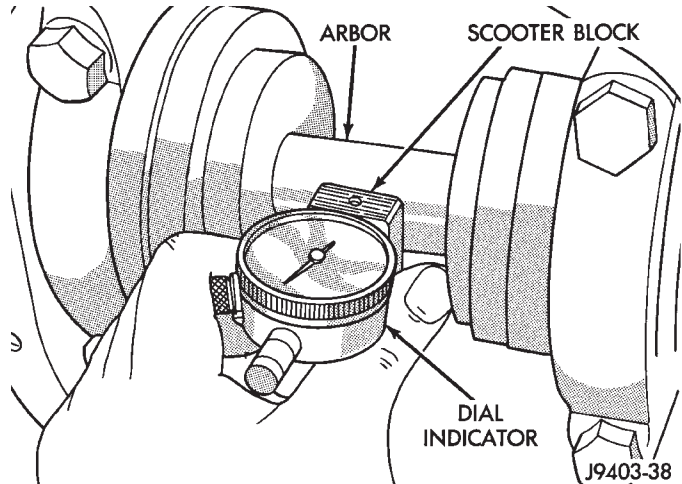

Fig. 45 Pinion Gear Depth Measurement—Typical
(5) Assemble Dial Indicator C-3339 into Scooter Block D-115-2 and secure set screw.
(6) Place Scooter Block/Dial Indicator in position in axle housing so dial probe and scooter block are flush against the surface of the pinion height block. Hold scooter block in place and zero the dial indicator face to the pointer. Tighten dial indicator face lock screw.
(7) With scooter block still in position against the pinion height block, slowly slide the dial indicator probe over the edge of the pinion height block. Observe how many revolutions counterclockwise the dial pointer travels (approximately 0.125 in.) to the out-stop of the dial indicator.
(8) Slide the dial indicator probe across the gap between the pinion height block and the arbor bar with the scooter block against the pinion height block (Fig. 45). When the dial probe contacts the arbor bar, the dial pointer will turn clockwise. Bring dial pointer back to zero against the arbor bar, do not turn dial face. Continue moving the dial probe to the crest of the arbor bar and record the highest reading. If the dial indicator can not achieve the zero reading, the rear bearing cup or the pinion depth gauge set is not installed correctly.